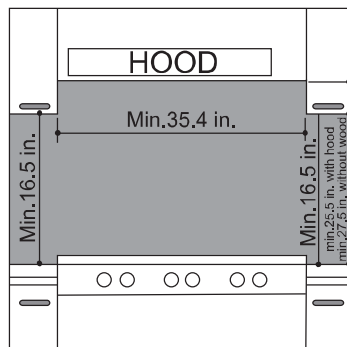

Fig.5
- c) The cabinets should be positioned near to the hood at a height of 16.5 in at least (Fig. 5).